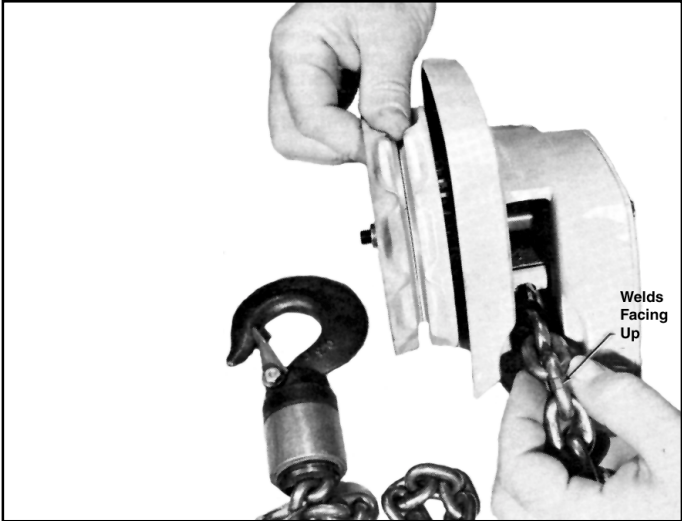

Figure 7-8. Installing Load Chain
- Lay hoist on workbench. By rotating hand chain wheel, run load chain thru hoist. The first link into the hoist from the load side must be a horizontal link (into a horizontal pocket) so that the tail chain will be in the proper position for fastening to the hoist frame. Be sure the welded side of the chain links face up so they do not enter the vertical slots of the sprocket. Make sure chain is not twisted. See Figure 7-8.